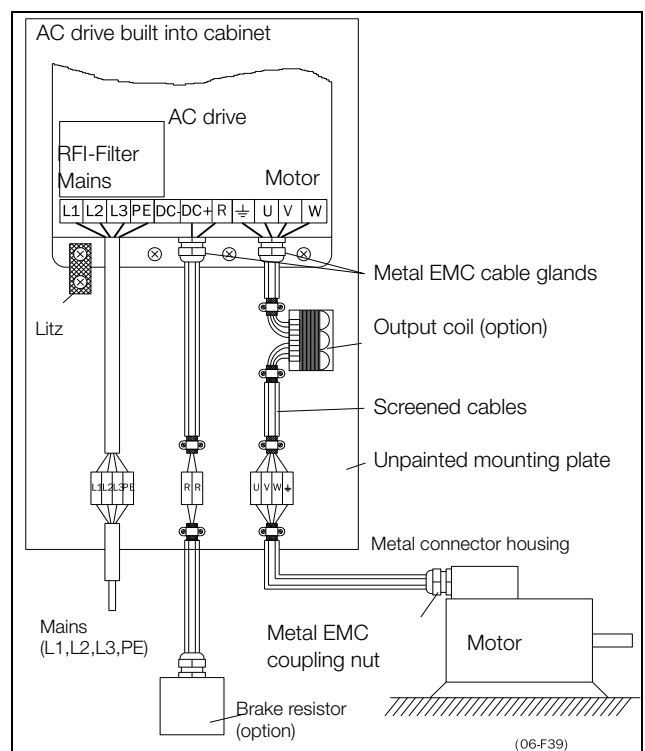

Fig. 42 AC drive in a cabinet on a mounting plate
- The litz ground connection see fig. 42, is only necessary if the mounting plate is painted. All the AC drives have an unpainted back side and are therefore suitable for mounting on an unpainted mounting plate.
- The litz ground connection, see fig. 42, is only necessary if the mounting plate is painted. All the AC drives have an unpainted back side and are therefore suitable for mounting on an unpainted mounting plate.
If the motor cables are to be interrupted by maintenance switches, output coils, etc., it is necessary that the screening is continued by using metal housing, metal mounting plates, etc. as shown in the Fig. 42.
- If the AC drive is mounted in a standard cabinet, the internal wiring must comply with the EMC standard. Fig. 42 shows an example of a AC drive built into a cabinet.